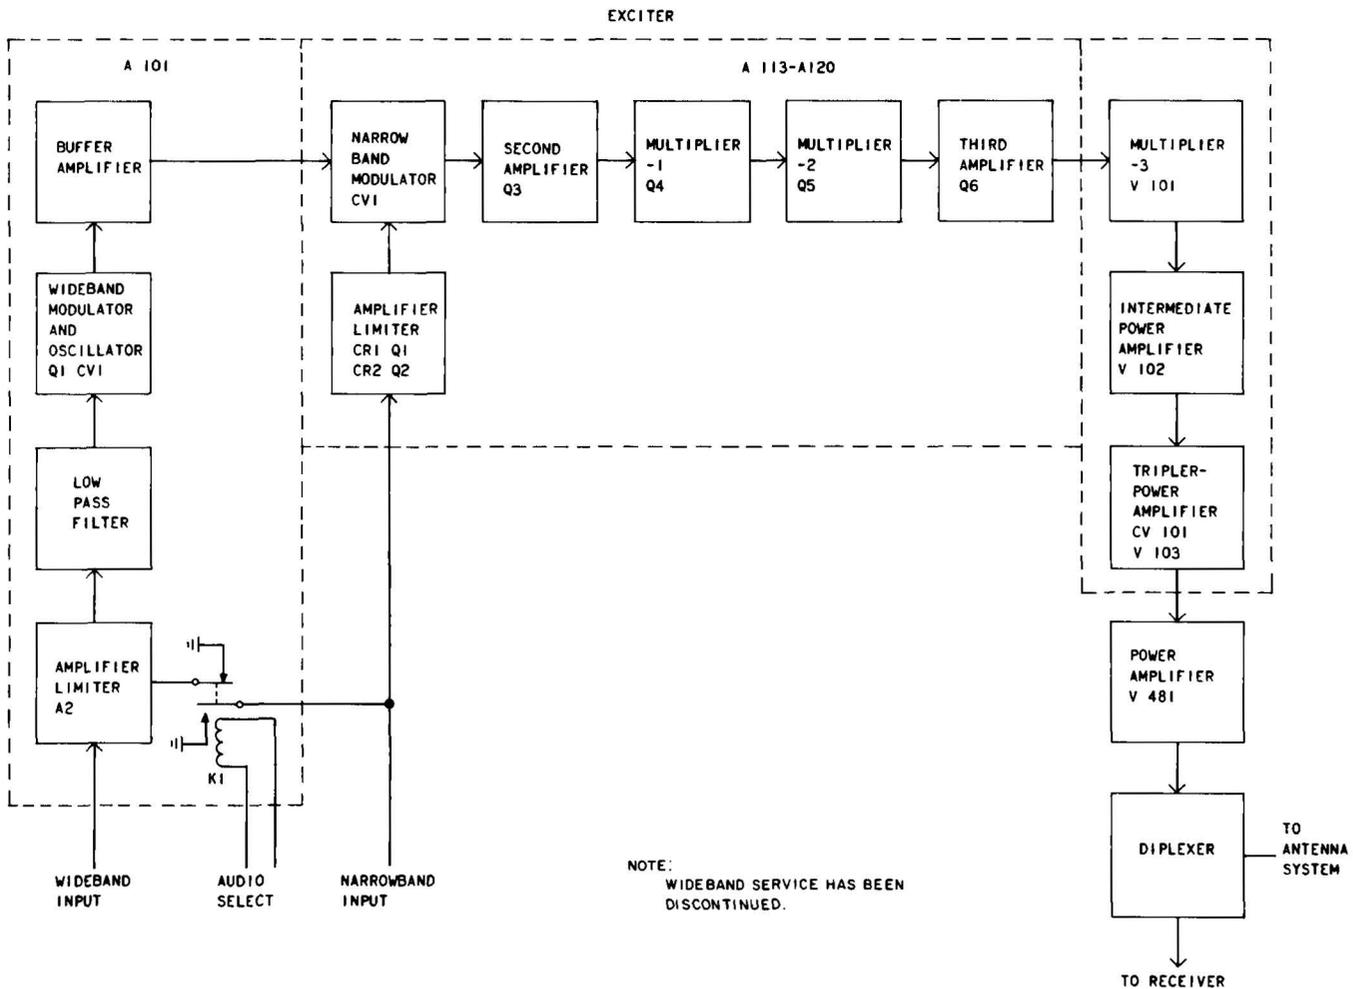

Fig. 6—Transmitter—Block Diagram
3.22 The transmitter-exciter (Fig. 6) consists of an oscillator/modulator or wideband modulator board, an exciter board, a doubler stage, an intermediate power amplifier, a tripler stage, a power amplifier stage, and output coupling filter network. Transistors are used in all circuits except the doubler, intermediate power amplifier (IPA) and power amplifier (PA) stages.